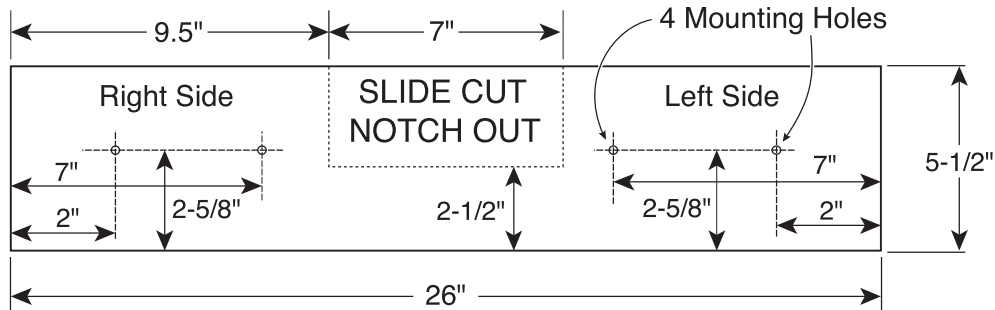

Fig. 38 Tall Auxiliary Wood Fence - 3/4" Thick
1. Place a piece of wood against the miter saw fence (see Figure 37). Wood can have a maximum height of 5-1/2". Check that auxiliary fence assembly does not interfere with head assembly. See dimension drawing –Figure 38.
7. When making slide cuts, the center must be notched out per pattern (see Figure 38).